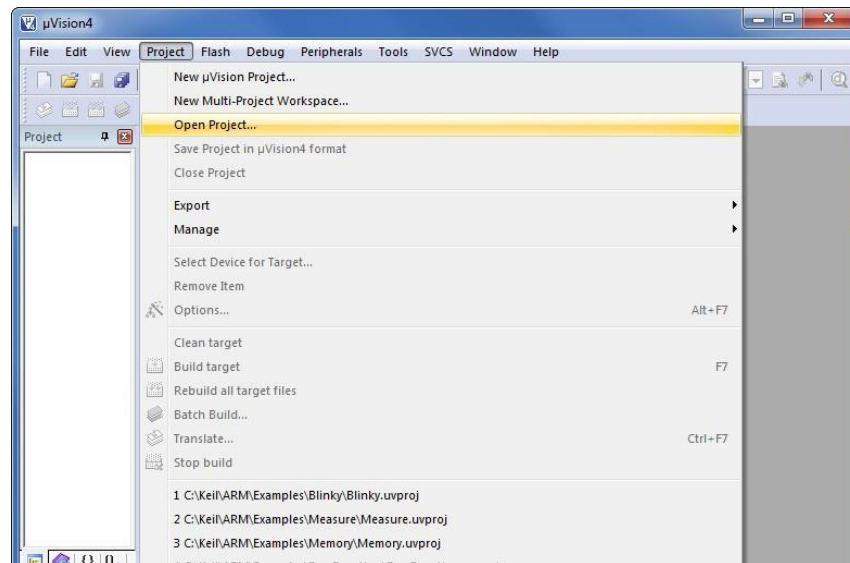

Figure 3
3. Open the project in Keil uVision. From the Project menu, select Open Project... (See Figure 3).